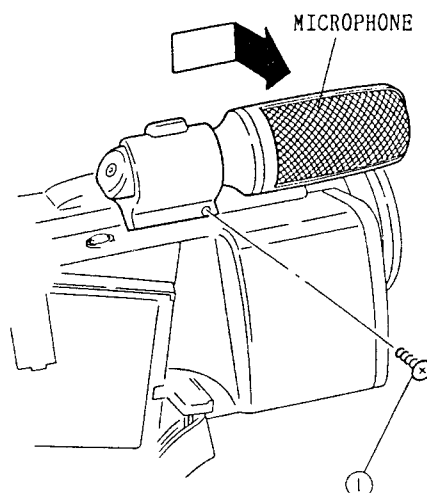

Fig. 2-6
1. Remove one (1) screw holding the microphone and remove the microphone in the direction of the arrow. (See Fig. 2-6)
4. Remove the microphone. (See Figs. 2-6, 2-7)
5. Remove the microphone. (See Figs. 2-6, 2-7)